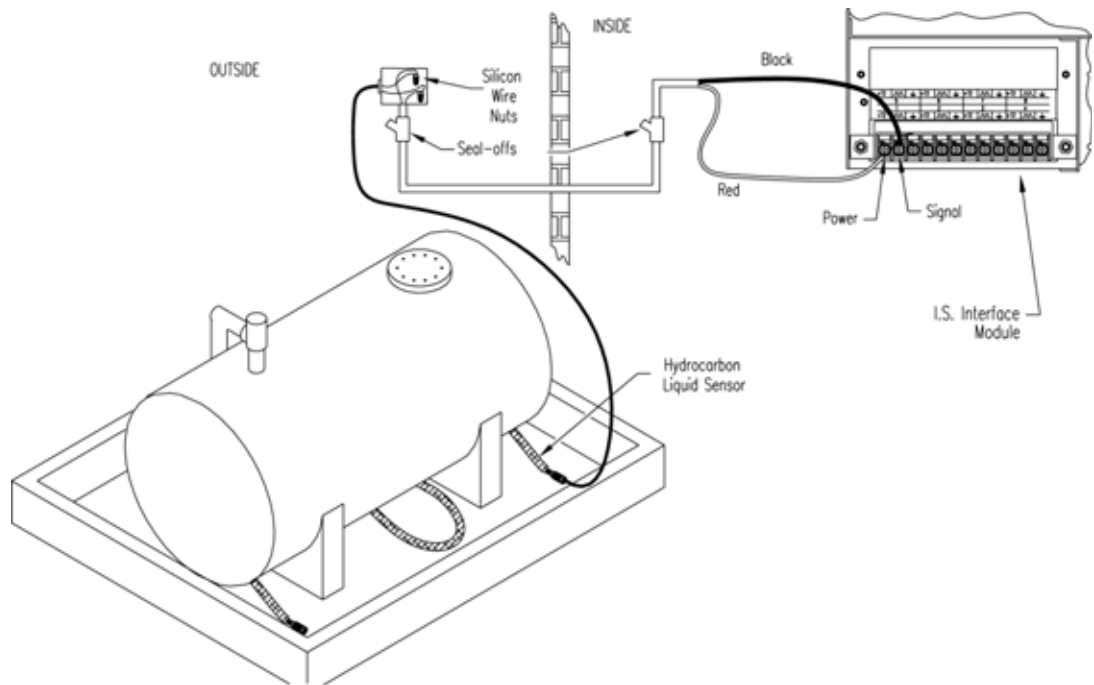

Figure 18: Hydrocarbon Liquid Sensor Installation
- Review Figure 18 on page 49.